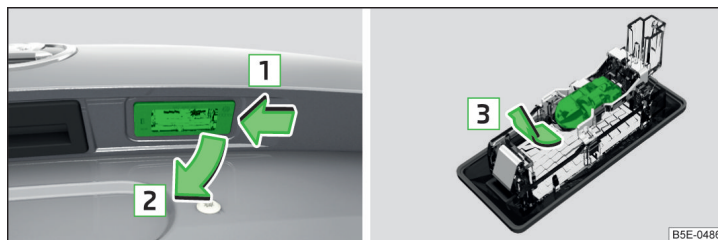

Fig. 225 Remove the number plate light/replace the bulb
- Push in the lamp in the direction of the arrow **1** » Fig. 225.